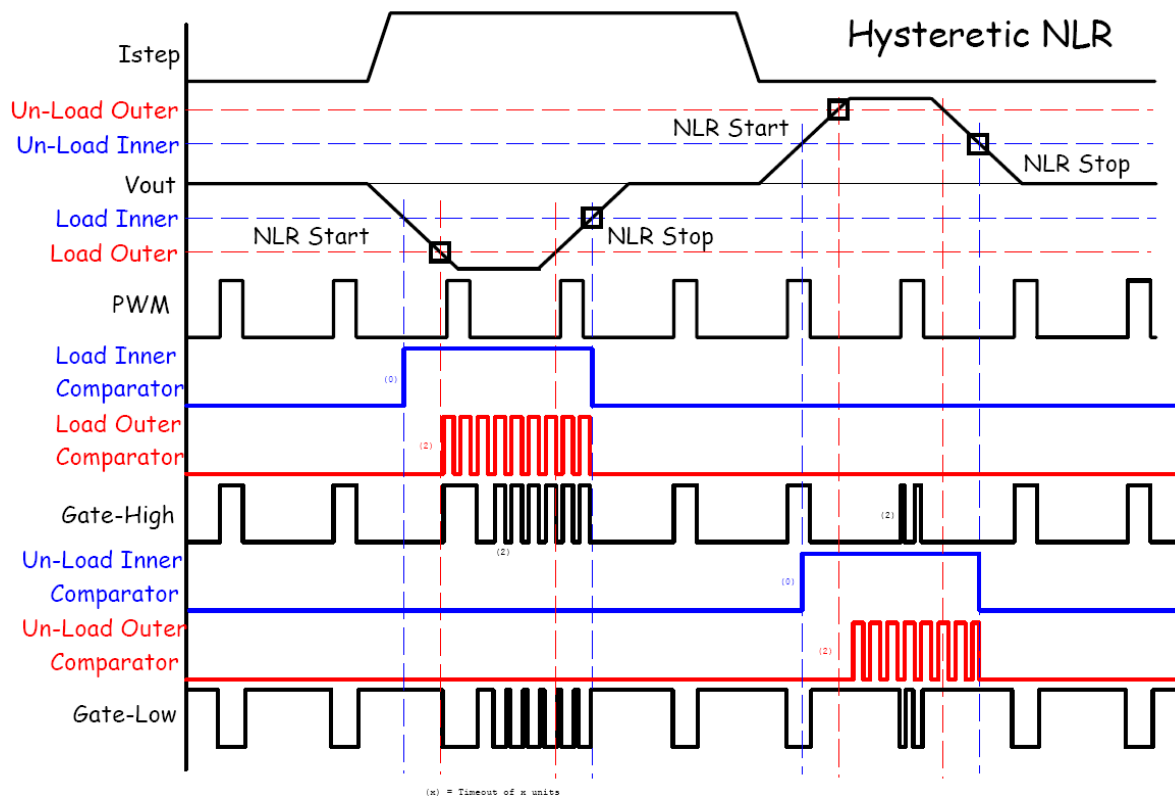

Figure 5. Hysteretic NLR
- 3) *Hysteretic* (Mode 3) – inner and outer thresholds enabled, correction times set only in outer position, with inner position set to 0. This mode begins an aggressive pulsed correction at the outer threshold and does not cease the correction until the output voltage returns below the inner threshold. This mode is most useful for cases which require tight control of the output deviation in the presence of a large transient and significant switching ripple. The output filter must be overdamped for this mode to succeed. See Figure 5 on page 6.